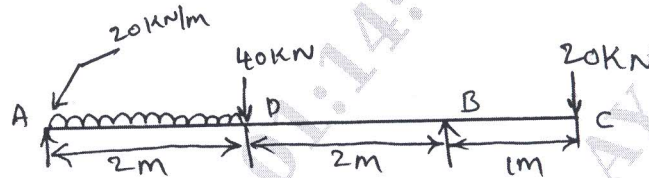

Fig.Q5(b)
b. Draw bending moment and shear force diagram for the overhanging beam shown in Fig.Q5(b). Clearly indicate the point of contra flexure.